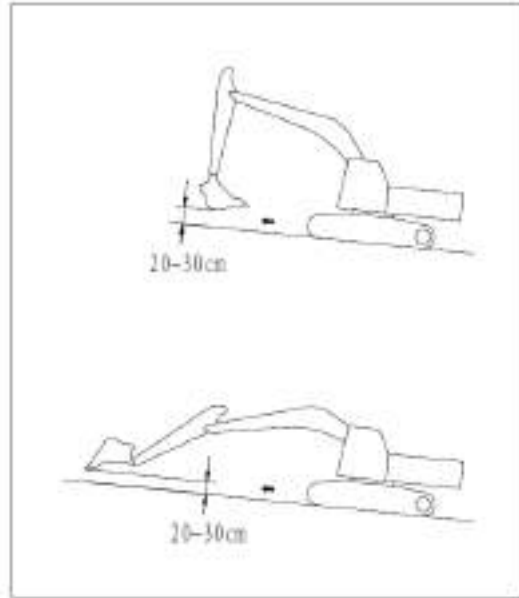

Figure 4-46 Bucket position while traveling uphill
7. When traveling uphill, if the track shoe slips or cannot travel with only track force, do not travel with the help of arm's pulling force as shown in Figure 4-46, since this may cause machine overturning.